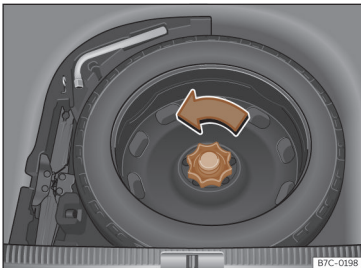

Fig. 238 In the luggage compartment: raised load floor.
- Turn the thumb wheel anticlockwise >>> **Fig. 238**.